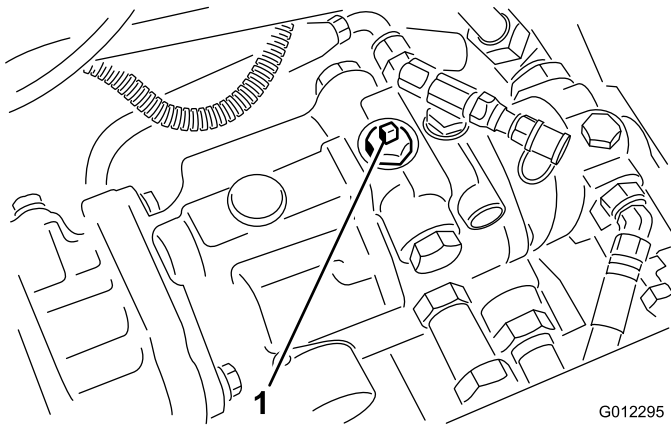

Figure 21
3. Rotate the by-pass valve 90 degrees (Figure 21).